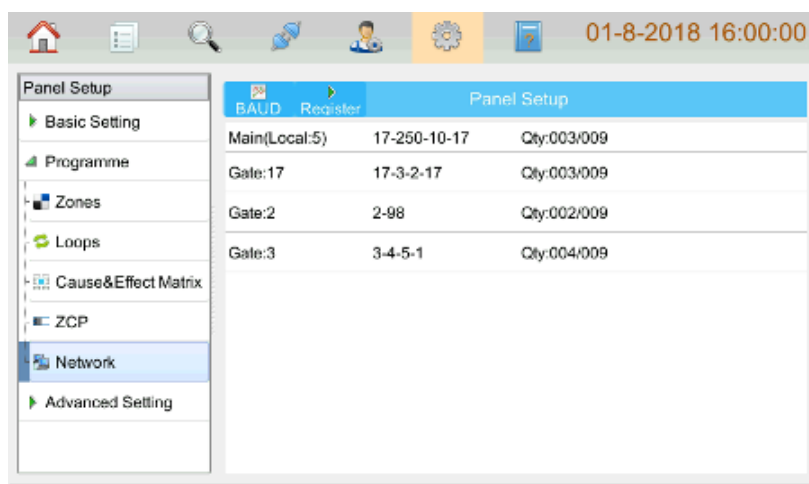

Fig 4.32
- Network: clicking **Network** in **Programme** menu enters the screen for checking the network topology of the whole system. Refer to the figure below Fig 4.32
sub-nets are listed in line as shown in Fig 4.32.